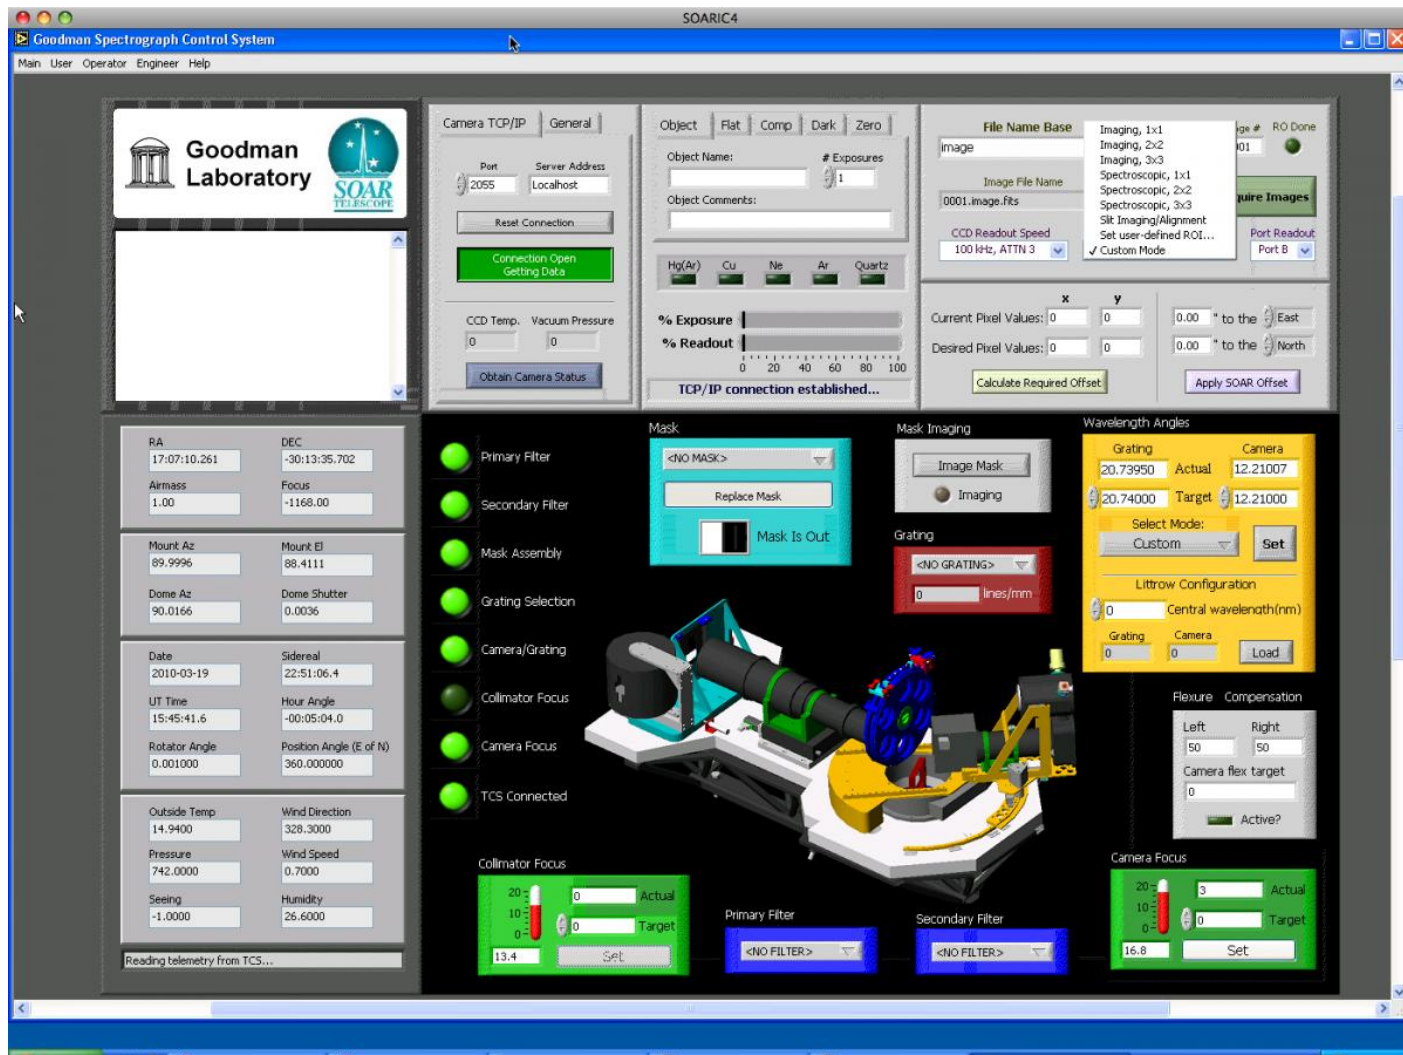

Figure 2: Selecting the CCD geometry (i.e., 1x1 imaging, 2x2 imaging, etc.)
- Select spectroscopic 1x1 binning to focus the internal camera optics of Goodman because it gives the highest angular and spectra resolution per pixel (see Figure 2).